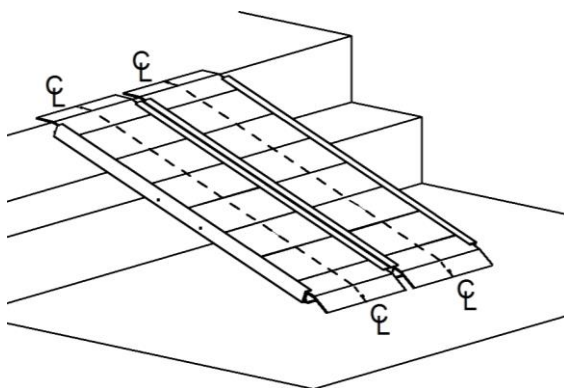

FIG. 1
3. Unfold ramp and position securely on support surfaces (FIG. 1).
- ⚠ Always enter and exit ramp along its centerline (⊥) (FIG. 1).